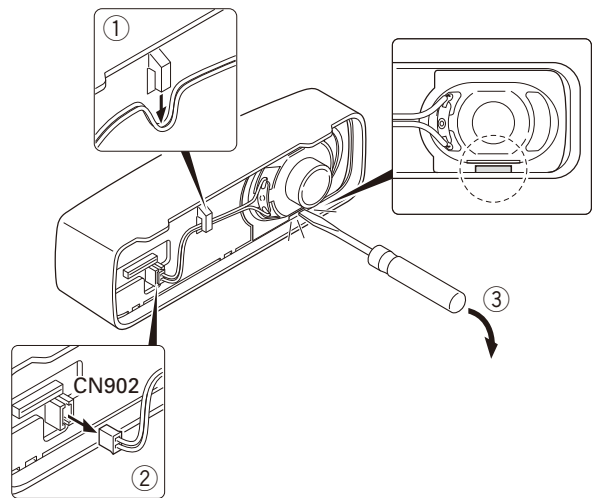

Fig. 2-1
1. Remove the speaker lead from the holder hook. (①)
2. Remove the speaker connector from the display unit connector (CN902). (②)
3. When removing the speaker hardware fixture, insert a flat-head screwdriver at the position shown in Figure 2-1 and tilt it in the direction shown by the arrow. (③)
4. To remove the holder, insert a flat-head screwdriver into tab of the holder and tilt it in the direction shown by the arrow. (④)